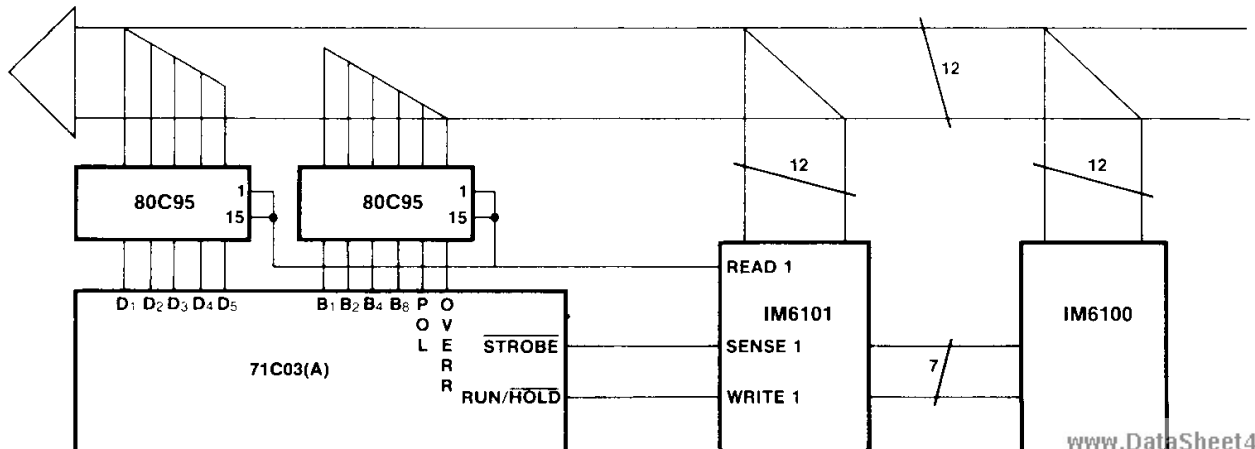

Figure 17: IM6100 to 71C03/71C03A Interface
Circuits to interface the 71C03(A) directly with three popular microprocessors are shown in Figures 17, 18 and 19. The main differences in the circuits are that IM6100 with its 12 bit word capability can accept polarity, over-range, under-range, 4 bits of BCD and 5 digits simultaneously where the 8080/8048 and the MD6800 groups with 8 bit words need to have polarity, over-range and under-range multiplexed onto the Digit 5 word - as in the UART circuits. In each case the microprocessor can instruct the A/D when to begin a measurement and when to hold this measurement.